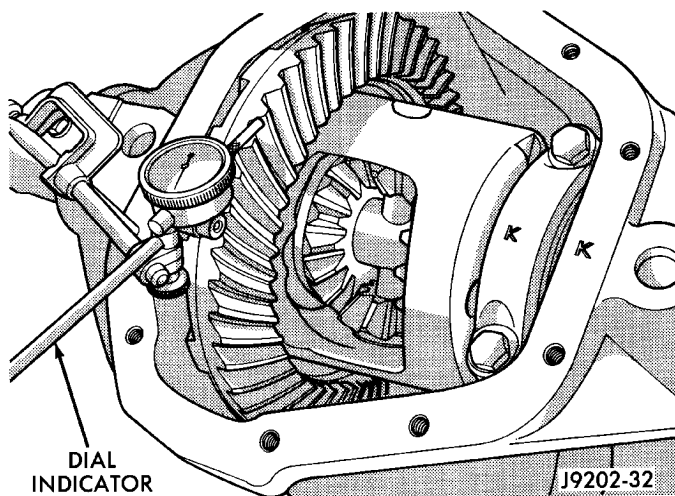

Fig. 76 Ring Gear Backlash Measurement
(30) Install side bearings and cups on differential case.
(31) Install spreader W-129-B, utilizing some items from Adapter Set 6987, on axle housing and spread axle opening enough to receive differential case.
(32) Install differential case in axle housing.
(33) Remove spreader from axle housing.
(34) Rotate the differential case several times to seat the side bearings.
(35) Position the indicator plunger against a ring gear tooth (Fig. 76).
(36) Push and hold ring gear upward while not allowing the pinion gear to rotate.
(37) Zero dial indicator face to pointer.
(38) Push and hold ring gear downward while not allowing the pinion gear to rotate. Dial indicator reading should be between 0.12 mm (0.005 in.) and 0.20 mm (0.008 in.). If backlash is not within specifications transfer the necessary amount of shim thick-